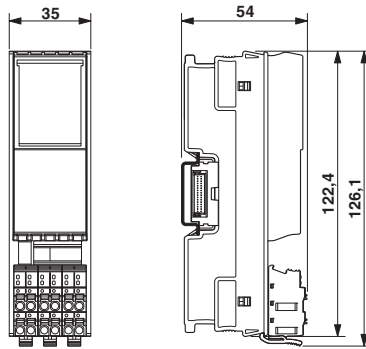

Figure 5-13 Nominal dimensions of the H housing with one terminal field and short connectors (type 1H (S), e.g., AXL F SSI1 AO1 1H)
| 1H (S) | Short connectors | AXL SSI 1/AO 1 | | Figure 5-13 on page 39 |